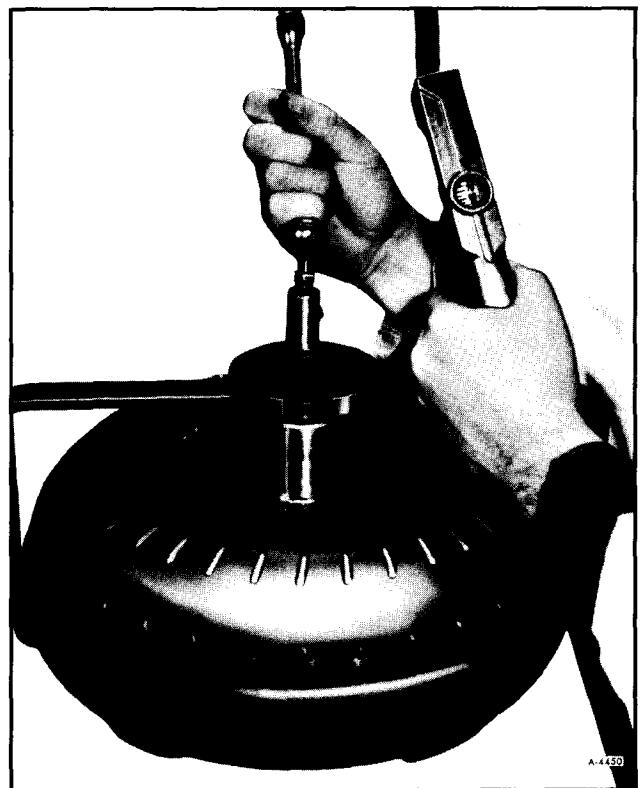

Figure 107—Leak Checking Converter
c. Fill converter with 80 psi of air, Figure 107.